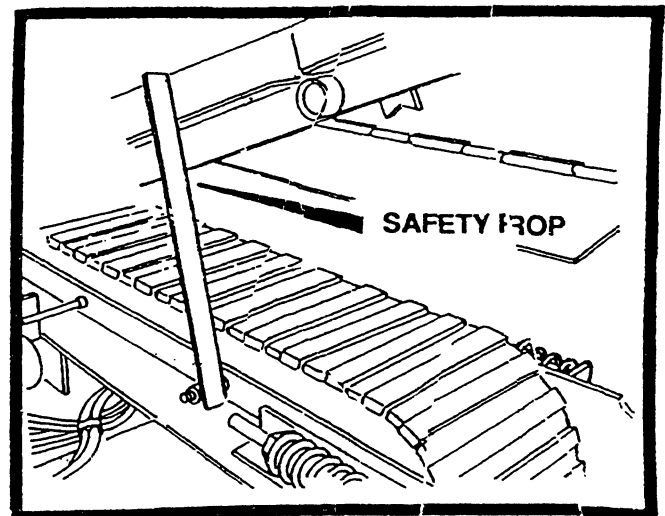

FIGURE 43
3. IMMEDIATELY AFTER RAISING FEEDERS, PLACE THE SAFETY PROP IN POSITION. See figure 43 and 44.